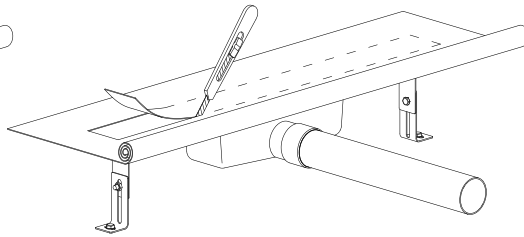

Fig.5
- 1.4- Cut the waterproof sheet with a cutter through the drain rectangle and remove surplus sheet (fig. 5).
- 2.5- Cut the waterproof sheet with a cutter through the drain rectangle and remove surplus sheet (fig. 5).